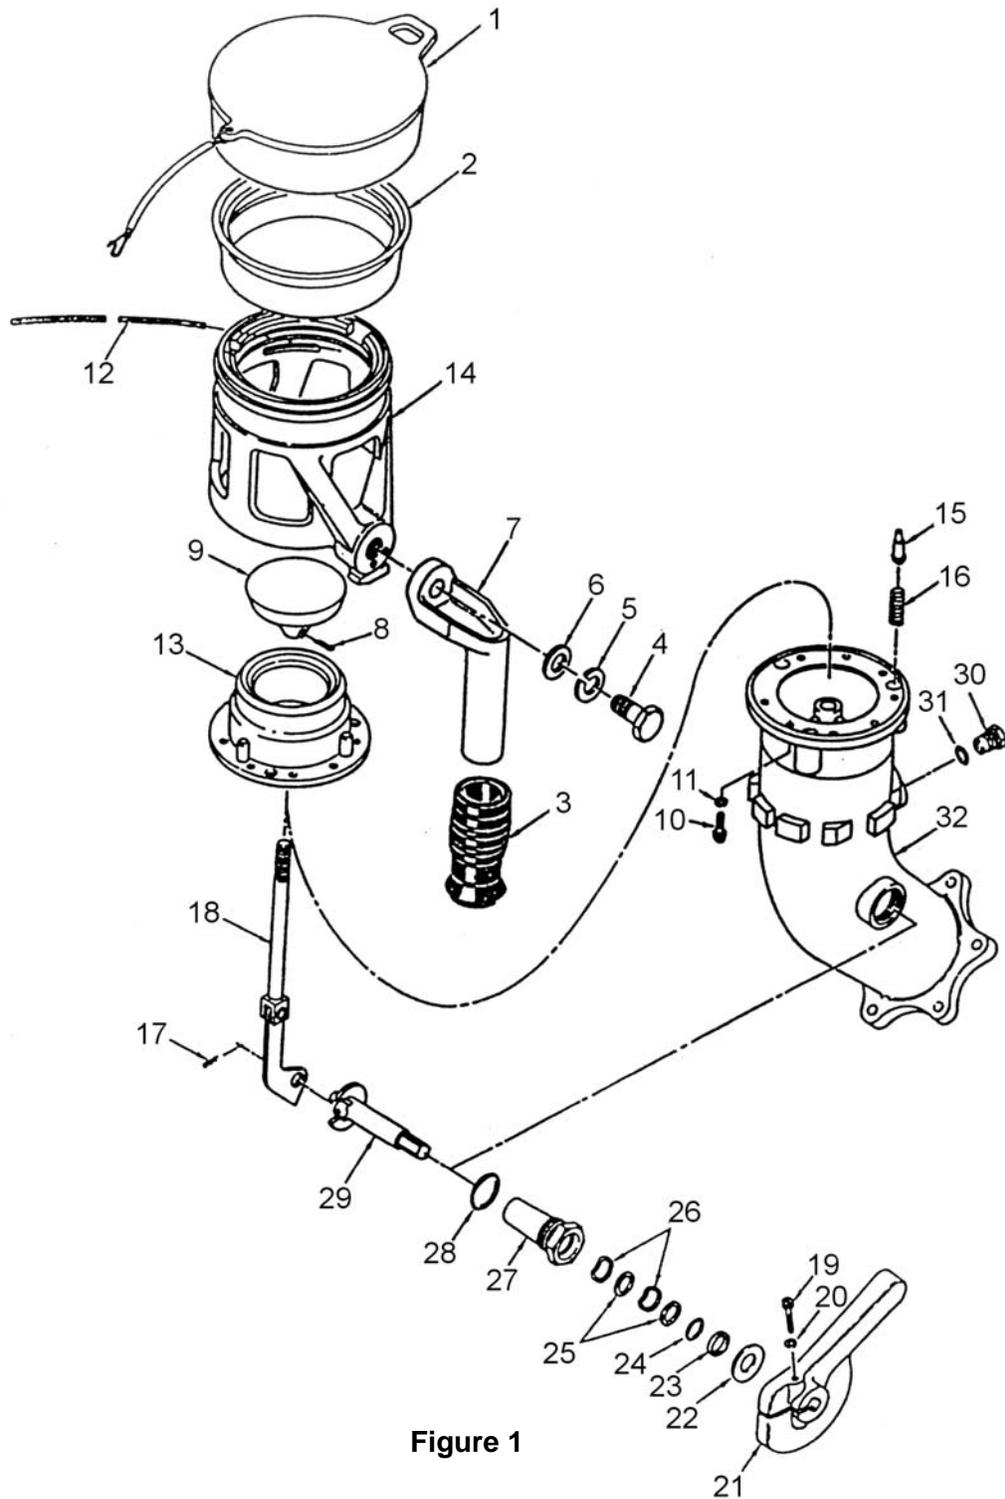

Figure 1
- Diameter of link journal on valve crank (29, figure 1) (0.291 inch min)
- Inside diameter of hole in link of Shaft Assembly(18, figure 1) (0.319 inch max)